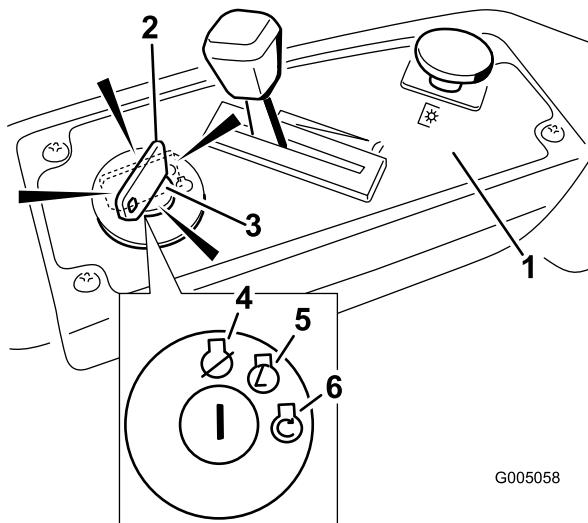

Figure 13
4. Turn the ignition key to Start to energize the starter. When the engine starts, release the key (Figure 13).
2. Move the throttle lever to between Fast and half throttle (Figure 13).